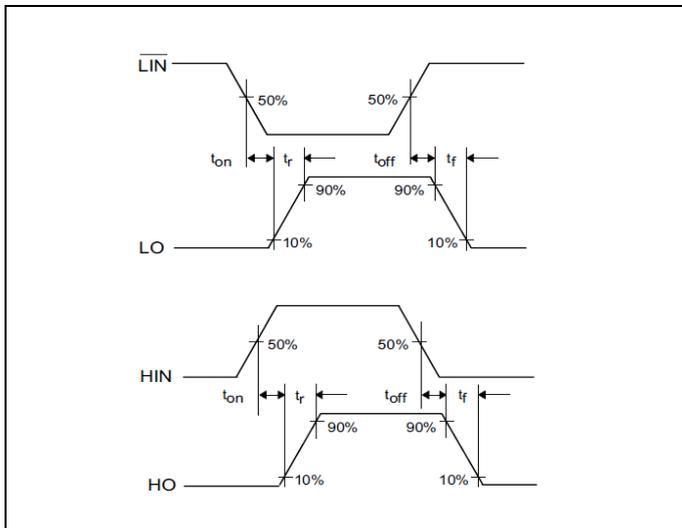
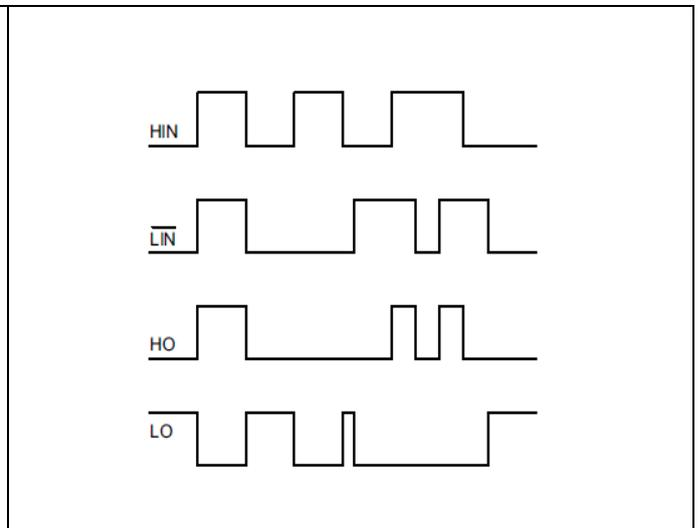

Figure 6 Switching timing diagram
Figure 7 Input/output logic diagram
The relationships between the input and output signals of the 2ED2183 (4) S06F (J) are illustrated below in Figure 6 and Figure 7. From these figures, we can see the definitions of several timing parameters (i.e.  $t_{ON}$ ,  $t_{OFF}$ ,  $t_R$ , and  $t_F$ ) associated with this device.